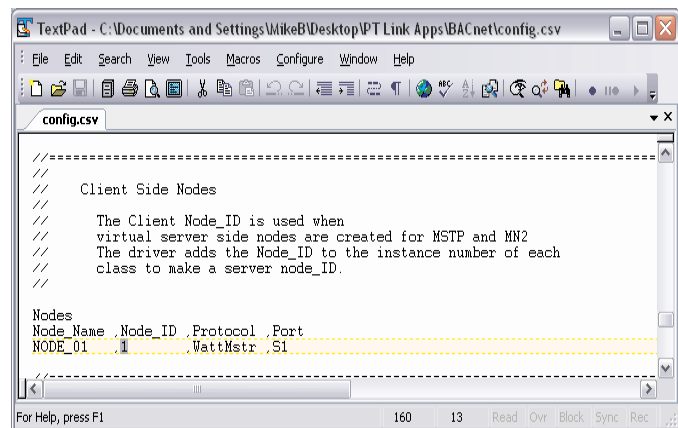

Figure 18: Changing the Node ID in Notepad
12.) You can change the Node_ID under 'Client Side Nodes' which is the N2 Device Instance Number (Figure 18). The default is 1. You can obtain this information from your BAS Integrator. To see how the N2 Address is calculated, see page 14.